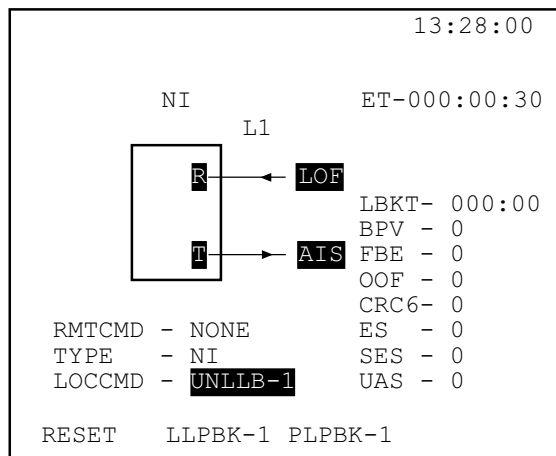

Figure 167 CSU/NI Emulation, T1 SINGL
2. Plug the cords into the SunSet T10 and circuit under test. Confirm that signal coming from the network is connected to the Line 1 jacks. The SunSet T10 will then respond to loopback codes from the network and display the CSU/NI Emulation screen. See Figure 167.